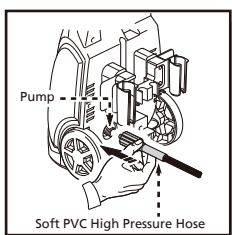

Fig. 3
- Screw the Soft PVC high pressure hose (clockwise) on the back of the unit at the bottom (Fig. 3). The end of the hose must be inserted into the water outlet far enough so the collar can thread onto the outlet threads until hand tight. Do not use pliers or vice grips to tighten. If it takes fewer than six or so turns you have not properly tightened the Soft PVC high pressure hose fitting. It is easier to position the power washer in front of you so to ensure that the threads are started correctly. Failure to properly tighten the Soft PVC high pressure hose will result in the hose slipping or popping off immediately upon turning the unit on. Do not worry about damage if this occurs - just reinstall and take extra care at screwing on the Soft PVC high pressure hose fitting.